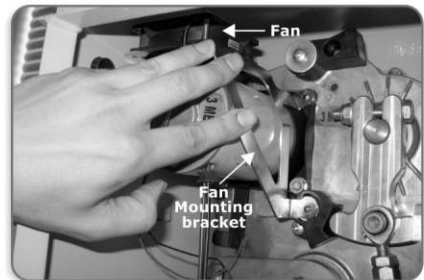

FIGURE 5.
- Align the holes on the fan mounting bracket with the holes in the bottom lock stop and motor flange respectively, as shown in Figure 5